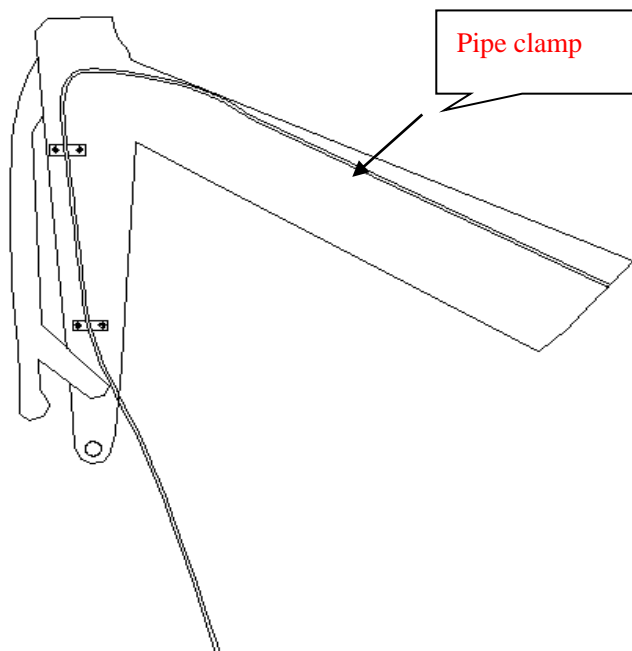

Fig. 11
3. Schematic diagram of pipe clamp and pipeline is shown in the following Fig. 11: